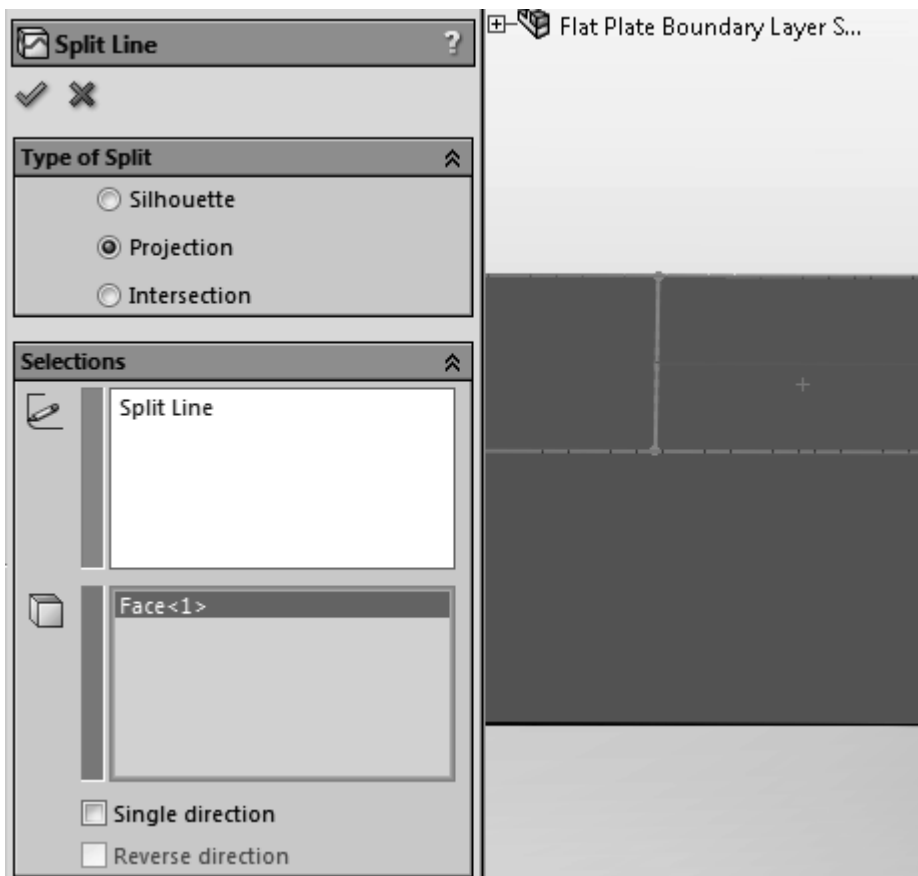

Figure 2.11b) Selection of surface for the split line
11. Rename the sketch in the **FeatureManager design tree** and call it **Split Line**. Click on the **Rebuild** symbol once again. Select **Insert>>Curve>>Split Line...** from the SOLIDWORKS menu. Select **Projection** under **Type to Split**. Select Split Line for **Sketch to Project** under **Selections**. For **Faces to Split**, select the surface where you have drawn your split line; see figure 2.11b). Close the dialog . You have now finished the part for the flat plate boundary layer. Select **File>>Save** from the SOLIDWORKS menu.